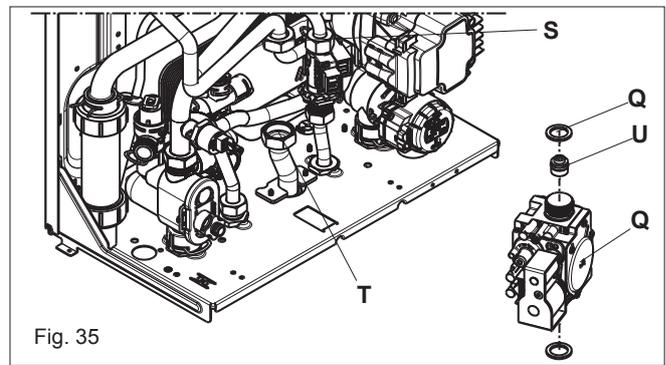

Fig. 35
7.13 GAS VALVE (FIG. 35)
7.13.1 INJECTOR (FIG. 35)